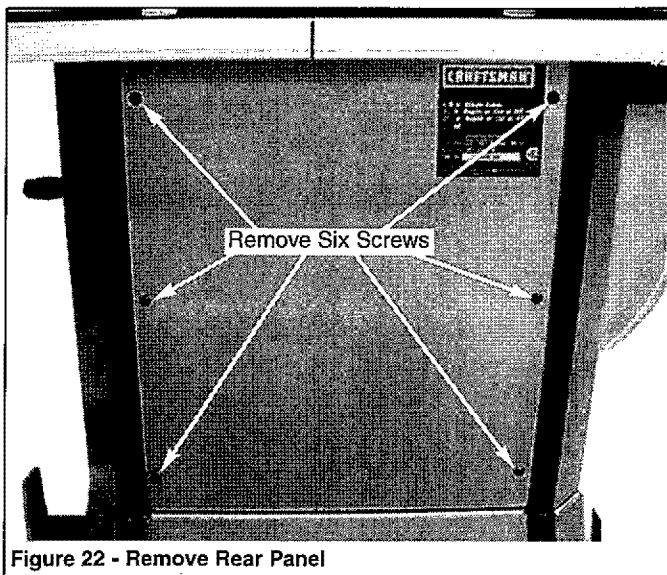
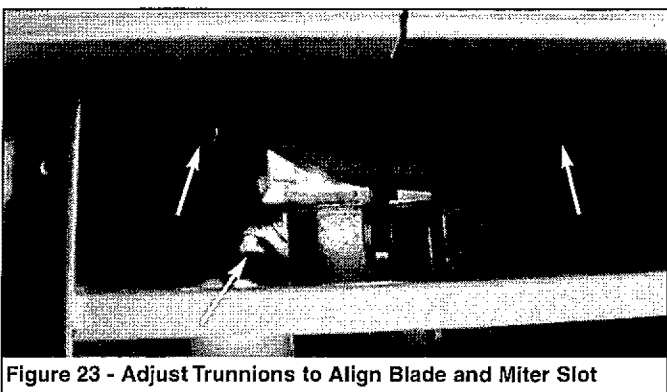

Figure 22 - Remove Rear Panel
Figure 23 - Adjust Trunnions to Align Blade and Miter Slot
- If an adjustment is necessary, proceed as follows: Loosen and remove the six socket pan head screws and the rear panel (see Figure 22). Loosen the three hex head bolts on the trunnion (see Figure 23) and shift trunnions until a position is found where the saw blade is parallel to the miter gauge slots.